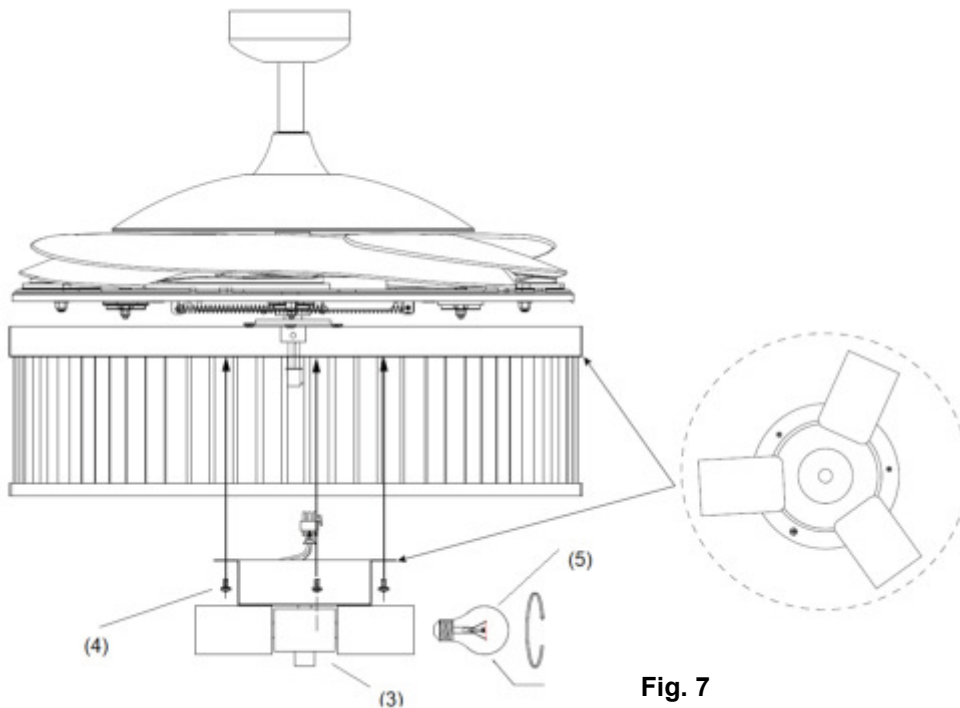

Fig. 7
4. Connect the quick connector to the lamp holder part (3). (Fig. 7)
5. Secure the lamp-holder part (3) to the light kit bracket by tightening the 3 screws (4). Do not over-tighten.
6. Install the globes (5) to the lamp holders. Do not exceed the maximum power rating.